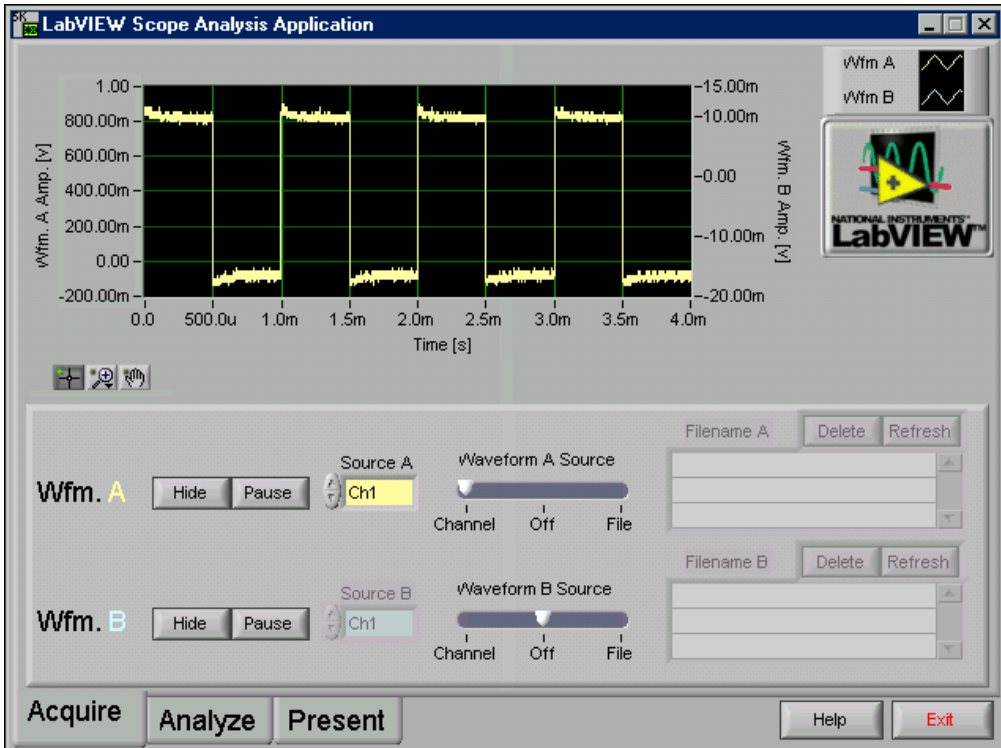

Figure 5. Acquire Tab
- Click the **Start** button. The **LabVIEW Scope Analysis Application** window appears and defaults to the **Acquire** tab. The demo locates a signal on Channel 1 as shown in Figure 5. A trace appears on the waveform graph.